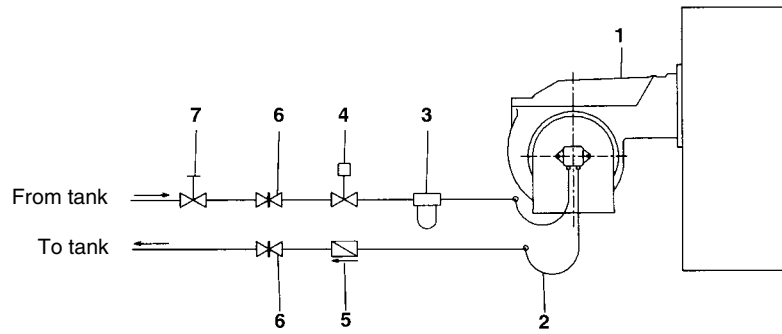

Fig. 13 - Double-pipe system
**NOTE:** in plants where gravity or ring feed systems are provided, install an automatic interception device (see n. 4 - Fig.13).